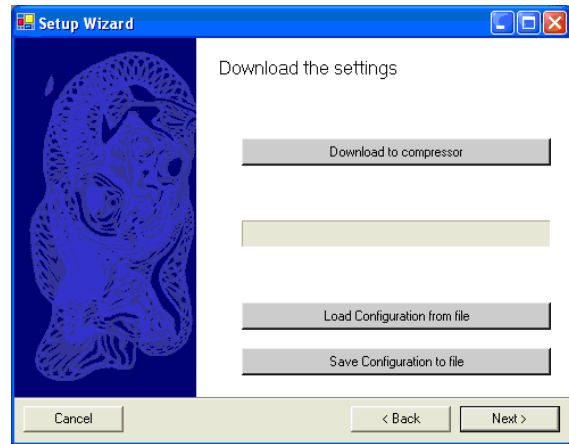

Figure 13 Download Settings Screen
1. Click the “Load configuration from file” button; refer to Figure 13.